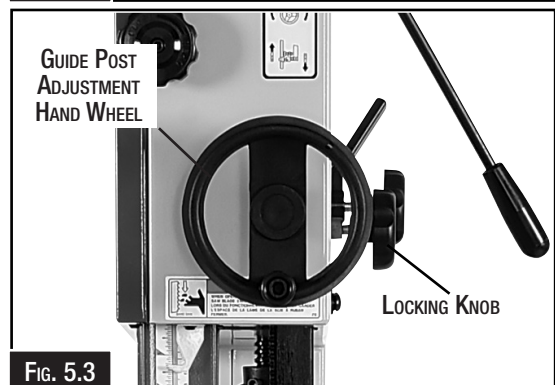

Fig. 5.3
**Guide Post Adjustment Knob:** Raises and lowers the blade guide post. (Fig. 5.3)
**Guide Post Locking Knob:** Locks the blade guide post. (Fig. 5.3)